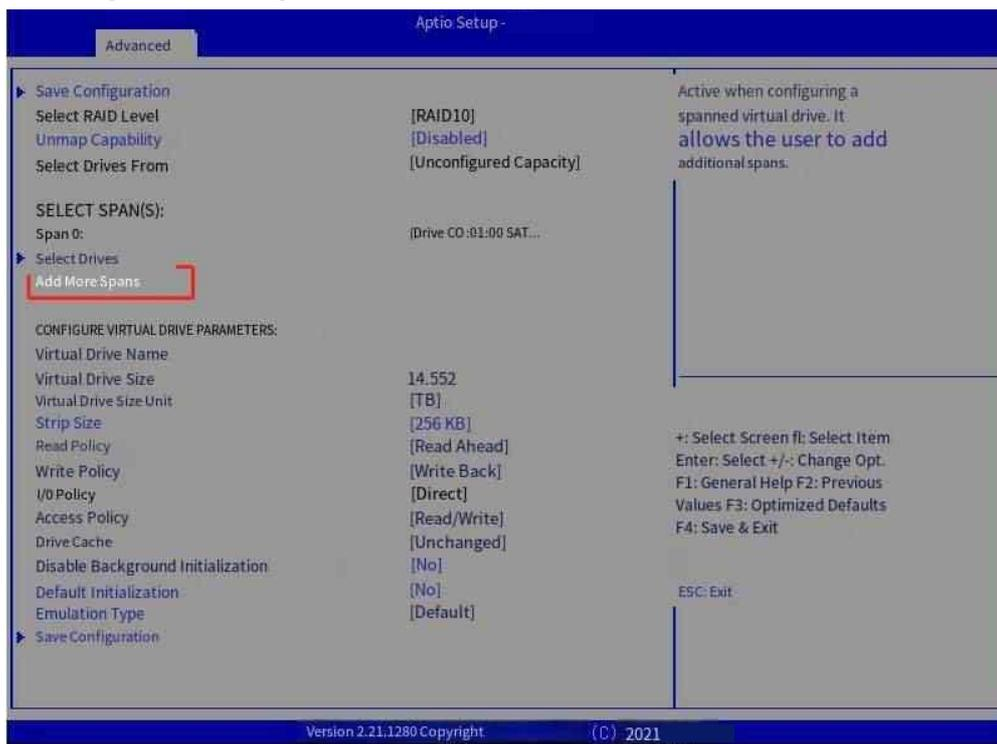
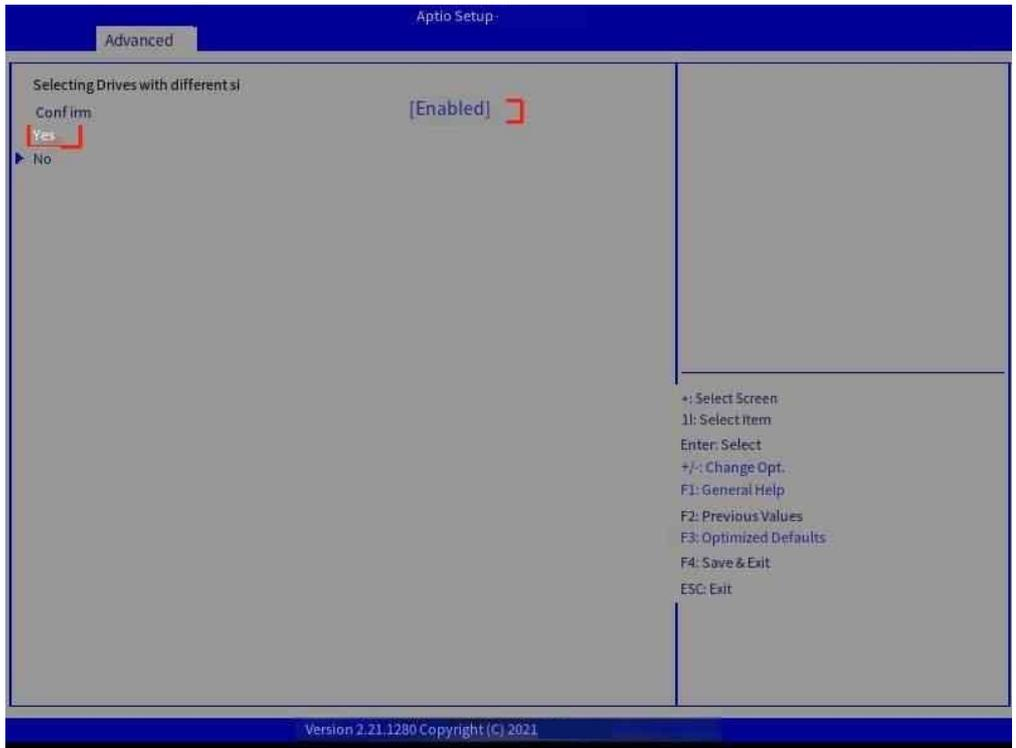
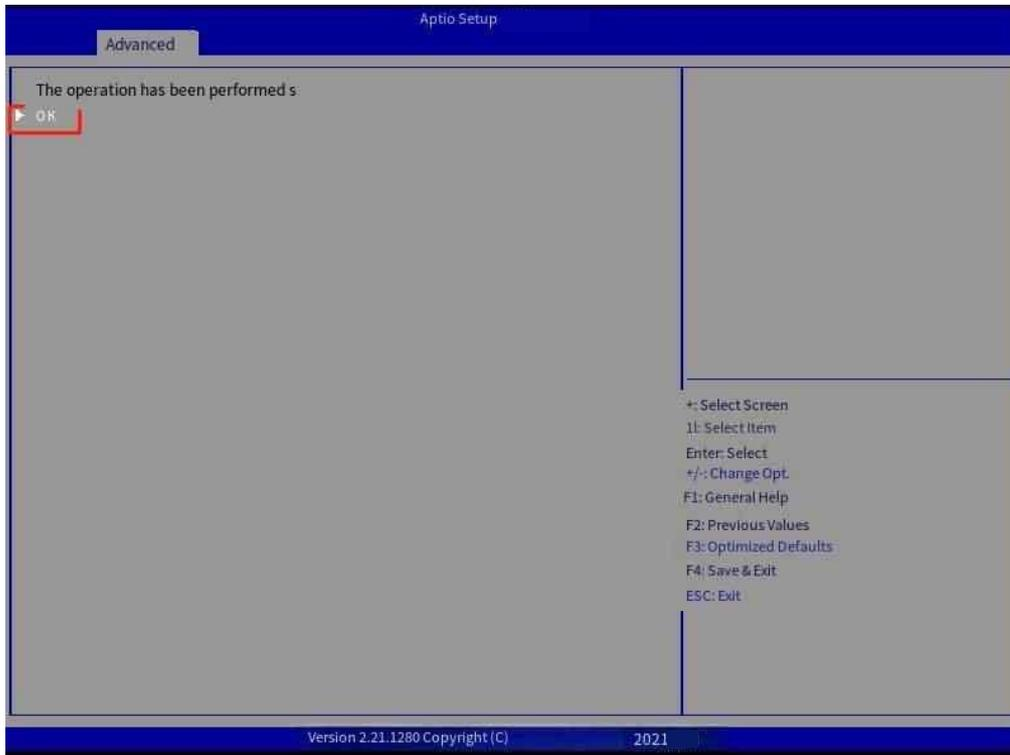

Figure 7-25 Select "Add More Spans" and press Enter
Figure 7-27 Set Confirm to enabled and click Yes
Figure 7-28 Click OK
Step 4: Select "Add More Spans", press Enter, select Span1 -> Select Drives, select the member drive to create Span1, click "Apply Changes" to create Span1 (Figure 7-25, 7-26, Figure 7-27, Figure 7-28);